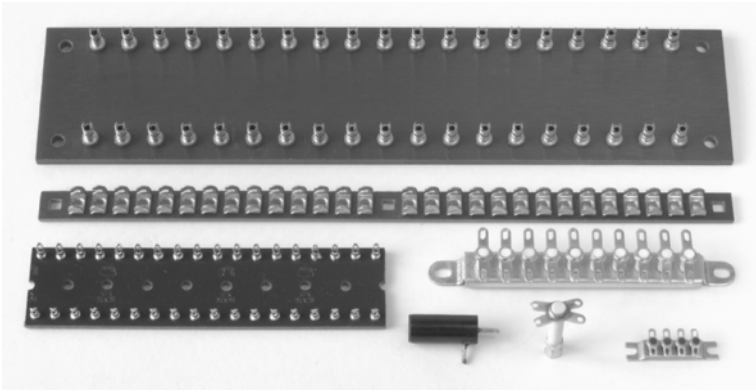

Figure 3.37
4. The preceding methods are two-dimensional. Interconnecting wire length can be further reduced if the assembly becomes three-dimensional. Components are now soldered directly to valve sockets and if necessary, to nearby stand-offs, or perhaps a tagstrip. This is potentially the best construction method, but it needs careful thought to keep the components even reasonably tidy and accessible for testing/maintenance. Tagboards, tagstrips, and stand-offs are all useful ways of supporting components and joints insulated from earth (see Figure 3.37).